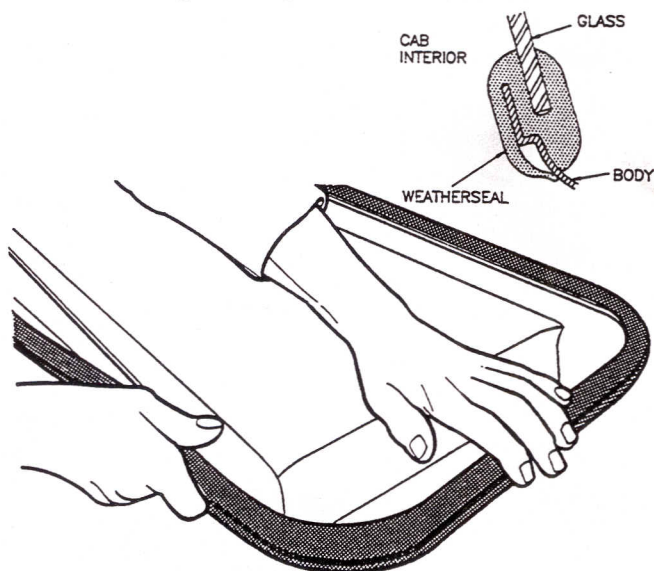

Figure 1
1. Locate the position of the moulding flash mark. This must be positioned in the middle of the windscreen top edge. Starting from this point, fit the weatherseal to the edge of the windscreen so that the glass engraving "LAMINATE" can be read from outside the cab after fitting. See Figure 1.